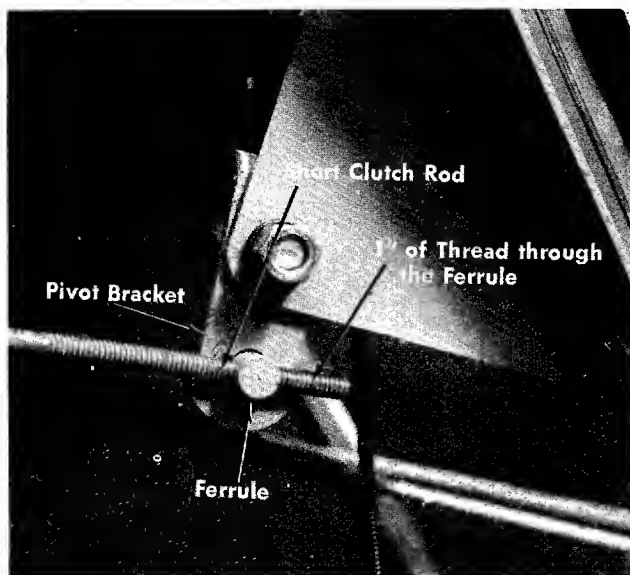

FIGURE 10
16. Place the ferrule through the round hole in the pivot bracket and screw the short clutch rod into the ferrule until 1" of thread extends through the ferrule. See figure 10.